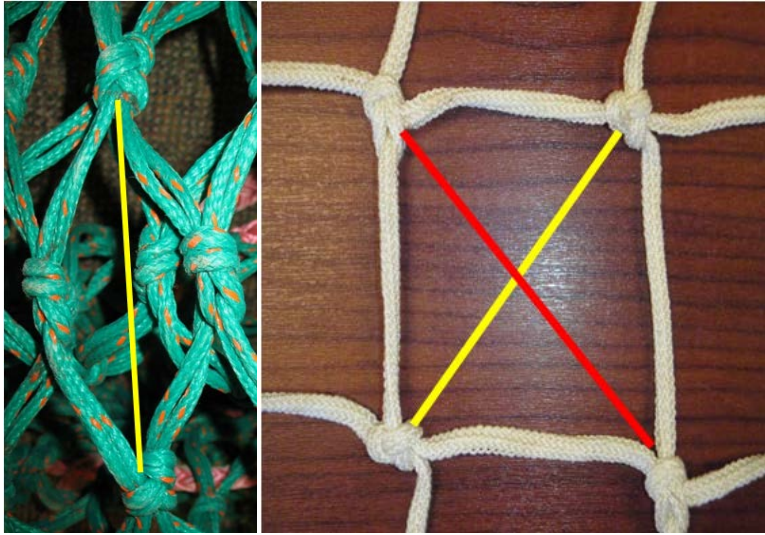

Figure 26. Diamond (left) and square (right) meshes. Colored lines indicate direction of mesh size measurement.
The size and orientation of the mesh affects catch selectivity (see Figure 26). Generally roundfish are targeted using diamond mesh, which stretches in a long, thin shape when towed. Flounders, on the other hand, are typically targeted with square mesh nets; the square mesh retains its shape while towing, which prevents the flatfish from exiting but can allow certain sized roundfish to get through.
- Measure meshes inside knot-to-knot in the direction the net is hung (see Figure 26).